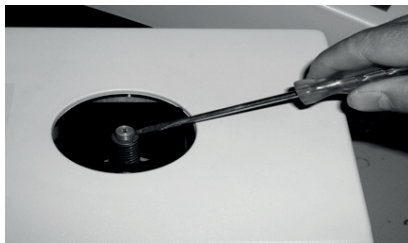

Fig. 7
3. If a capillary tube is broken in the holder, shut down the power first. After the oven is cooled down, follow the illustration in Figure 7. Dismantle the capillary holder from the oven and remove the glass scrap with a needle (accessory). Then put the holder back in the oven. When inserting the holder, make sure the holder is fastened with the oven. Finally, check the instrument to see whether it works normally. Contact the supplier Technical Service in case of any unfamiliar situation.